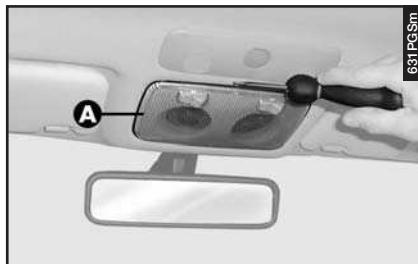

fig. 68
- Remove the roof light (**A**-fig. 68) levering in the point illustrated.